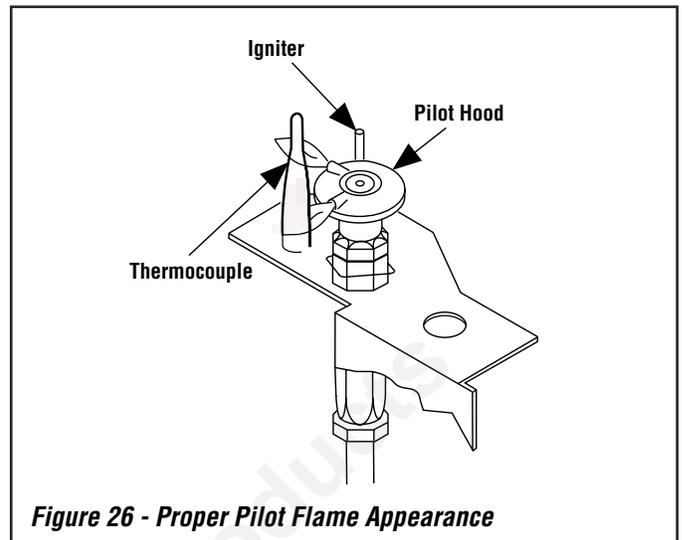

Figure 26 - Proper Pilot Flame Appearance
- Periodically inspect the pilot system for proper flame. Turn ON the IPI switch (Intermittent Pilot Mode, ON [-] = Standing Pilot Mode). Ensure the igniter lights the pilot. The pilot flame should engulf the flame sensor as shown in **Figure 26**. See *Intermittent/Standing Pilot Mode* on **Page 22** for instructions on switching from intermittent ignition to a standing pilot.